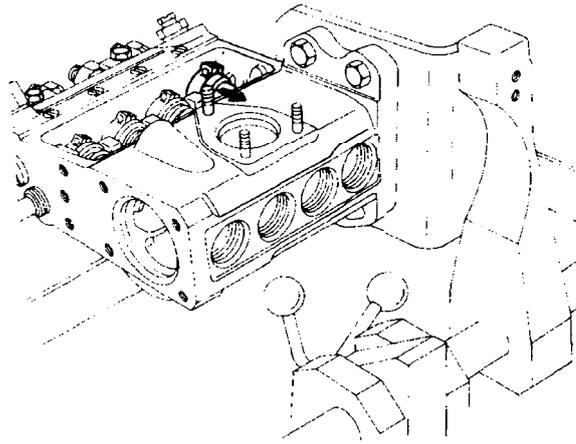

Figure 72 Removing the Control Sleeves
- aa. Remove the plunger return springs and the upper spring seats from the injection pump and then remove the control sleeves from the barrel assemblies (Figure 72).